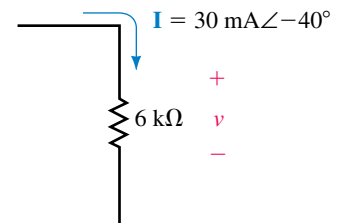

FIGURE 18–77
2. Repeat Problem 1 for the resistor of Figure 18–77.